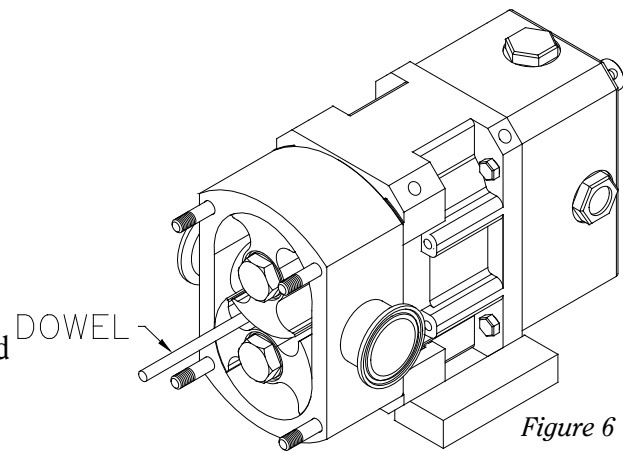

Figure 6
- d) To remove the rotors, first loosen the first rotor, place the wooden dowel between the rotors as shown in *Figure 6*.